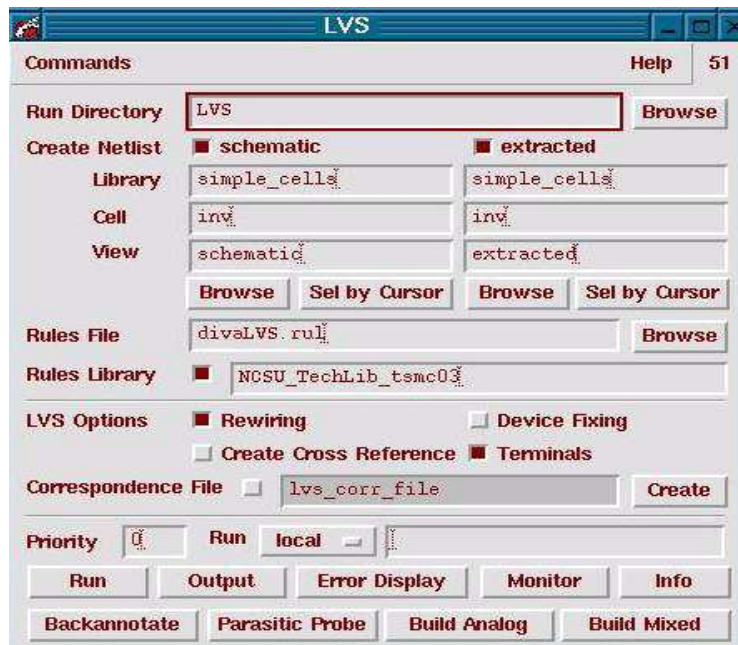

Figure 3: LVS window for verification of the inverter.
19. The next step is to perform a layout-versus-schematic check (LVS) to verify that all those rectangles in our physical layout actually form the same circuit as that defined in the original schematic. In the Lib Manager Window, open the schematic and extracted cellviews of the inverter. In the Virtuoso Layout window showing the extracted cellview, go to Verify->LVS. The LVS window should appear. In the Create Netlist Schematic column, choose Sel by Cursor and then click on the Virtuoso Schematic window containing the inverter schematic. In the Create Netlist Extracted column, choose Sel by Cursor and then click on the Virtuoso Layout window containing the extracted waveform. In the LVS options, enable "Rewiring" and "Terminals". The LVS window should now look like the one shown in Figure 3, assuming that you used the name 'inv' for the cell. Start LVS by clicking on the Run button.